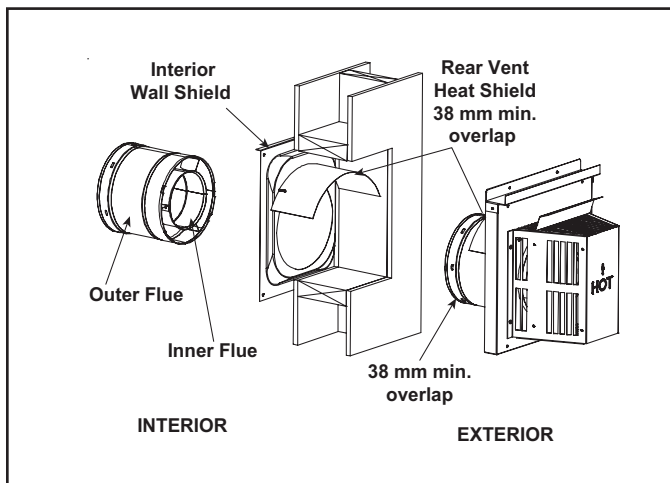

Figure 10.17 Flueing through the Wall
- The small leg in the shield rests on top of the flue to properly space it from the pipe section (see Figure 10.17).